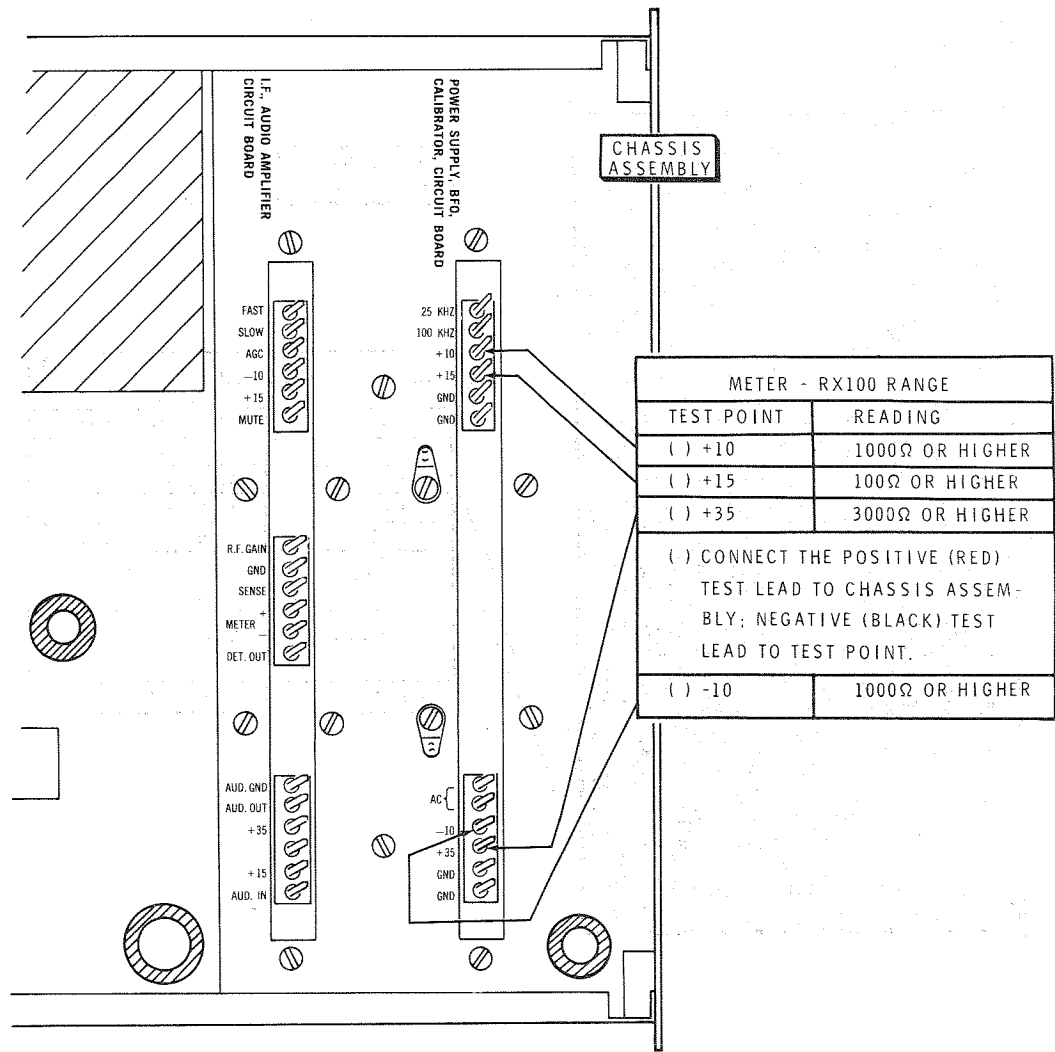

FIGURE 2
- () Position the chassis assembly as shown in Figure 2 (fold-out from this Page).
- () Connect the positive (red) ohmmeter test lead to each test point listed in the chart on Figure 2.